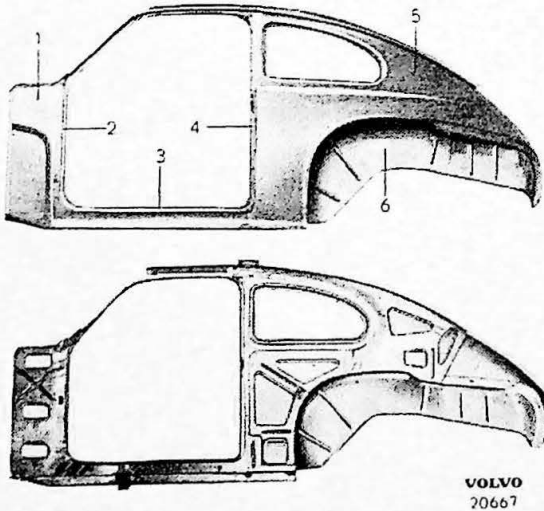

Fig. 5.
The side section consists of the cowl side (1, Fig. 5) and the side of the rear section (5). This section consists of one inner and one outer plate. The rear of the cowl side is reinforced and forms pillars (2) for the attachment of the doors. The lower part forms the door sill (3). The part of the body from the central pillar (4) to the rear compartment opening is the side of the rear section. The side has a flanged opening for the rear side window while the lower part forms the wheel housing (6). This continues into the side of the rear compartment.